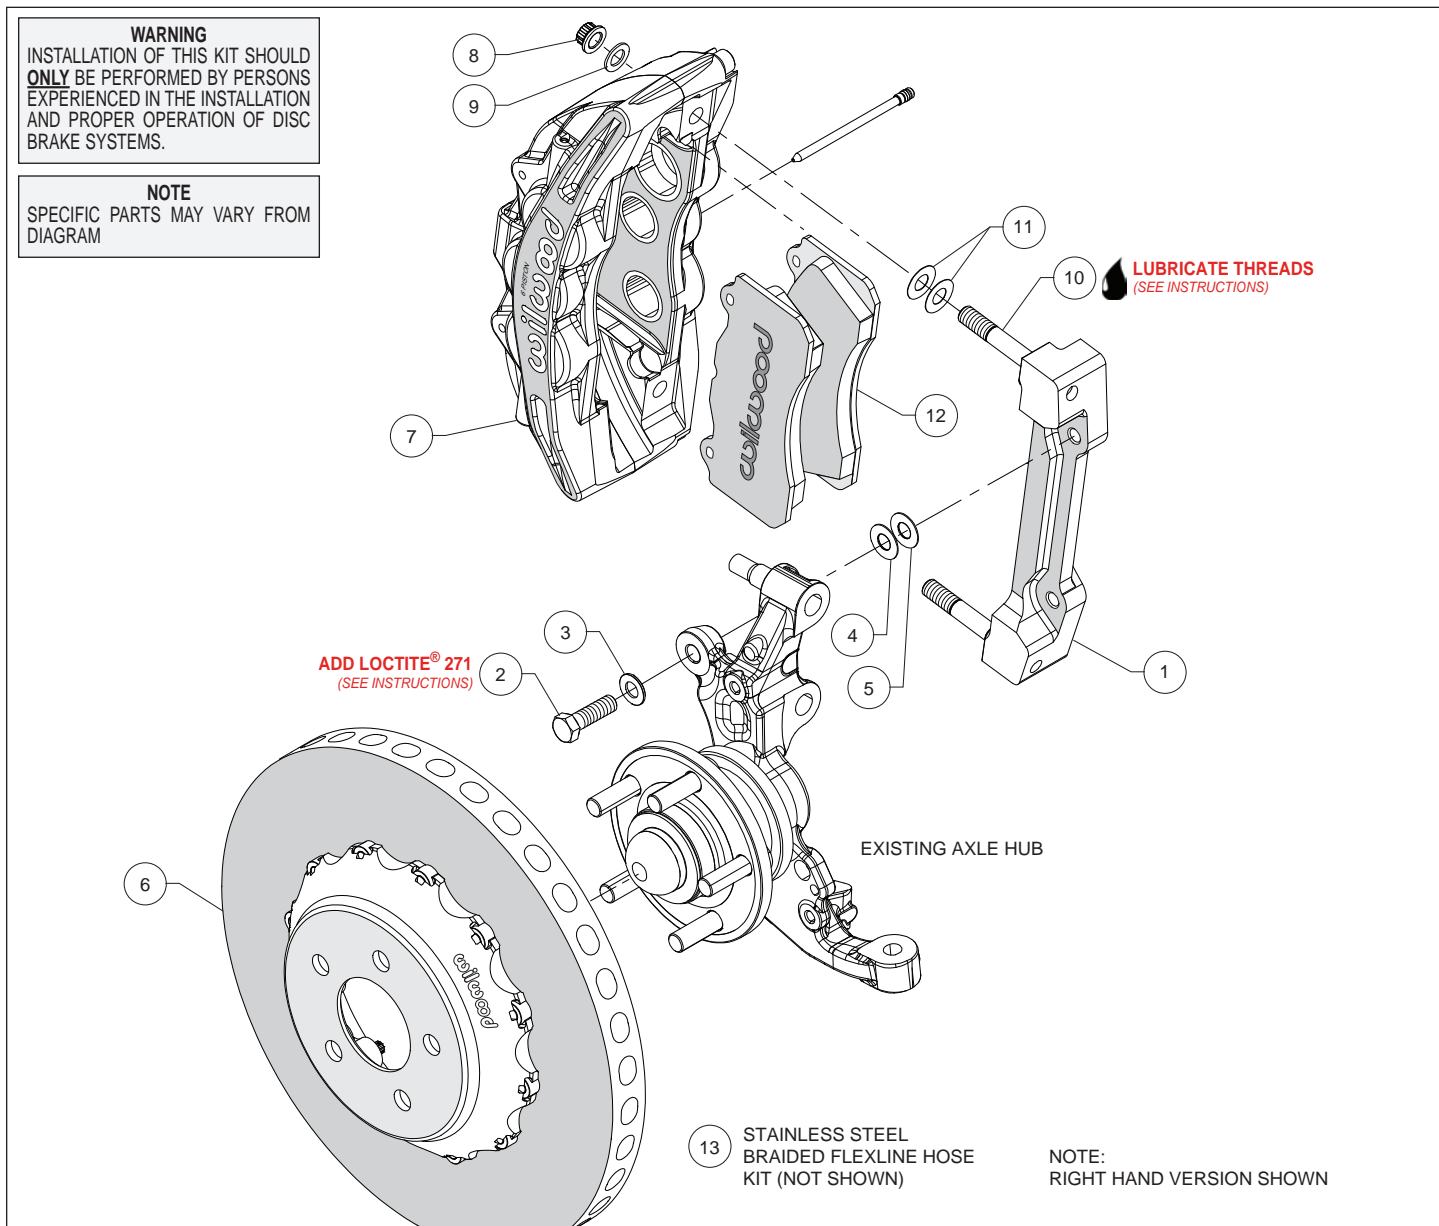

Figure 1. Typical Installation Configuration
**Assembly Instructions** (numbers in parenthesis refer to the parts list and Figure 1 on the preceding pages):
- The caliper mount bracket (1) should initially be installed with clean, dry threads on the mounting bolts. Orient the bracket, as shown in Figure 1 and Photo 1, and install using bolts (2) and washers (3). Initially place one .033" thick shim (4) on each bolt between the bracket and upright, Figure 1. Temporarily tighten the mounting bolts. **NOTE:** *The bracket must fit squarely against the mount bosses on the upright.* Inspect for interference from casting irregularities, machining ridges, burrs, etc. Later, after the caliper alignment has been checked, the mount bolts will be secured using red *Loctite*® 271.
- Slide the hat/rotor assembly (6) onto the axle hub. **NOTE:** *The hat must fit flush against the axle hub flange or excessive rotor run out may result.* Install three lug nuts (finger tight) to keep the hat/rotor assembly in place while continuing with the installation, Photo 2.
- NOTE:** *This kit contains distinct right and left hand calipers that must be mounted in a specific direction, as described below.* Lubricate the caliper mounting studs (10) with lightweight oil. Initially place two .015" thick shims (11) on each stud between the caliper and the bracket, as shown in Figure 1 and Photo 3. Mount the caliper (7) onto the bracket (1) using lock nuts (8) and washers (9), Figure 1. Temporarily tighten the lock nuts. Ensure that the caliper is mounted so the largest pistons are at the rotor exit end of the caliper, in relation to the direction of the rotor. View the rotor through the top opening of the caliper. The rotor should be centered in the caliper, Photo 4. If not, adjust by adding or subtracting shims (4 and/or 5) between the bracket and the upright. Always use the same amount of shims on each of the two mounting bolts. Once the caliper alignment is correct, remove the bracket mounting bolts (2) one at a time, apply red *Loctite*® 271 to the threads, and torque to 60 ft-lbs.
- Remove the two pad retaining pins from the caliper (7) by pushing out the pins from the tapered end using a blunt instrument. Insert the brake pads (12) into the caliper from the bottom, Figure 1 and Photo 5. With the friction material facing the rotor, secure the brake pads in place with the pad retaining pins, Photo 6. Reinstall the caliper onto the caliper mounting bracket and temporarily tighten the lock nuts. Check that the top of the brake pad is flush with the outside diameter of the rotor, Photo 7. If not, adjust by adding or subtracting shims (11) between the caliper and the bracket. After the caliper pad height is set, torque the caliper lock nuts (8) to 65 ft-lb.